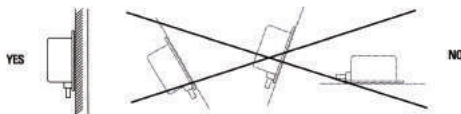

Figure 7
- 8) The pressure gauge operates in vertical position. Always install in vertical position to calibrate. (Figure 7)